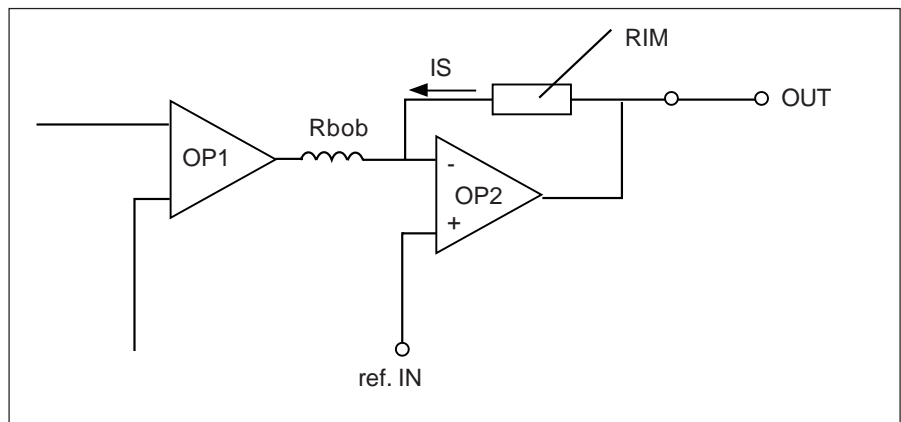

Fig. 9: Measuring range in Ref in mode. LTSR output schematic.
- The positive measuring range is defined as follows: OP1 & OP2 (figure 9) saturate above 4.5 V and below 0.5 V. The voltage at the Rim connections is equal to: 4.5 V (max possible output) - $V_{\text{Ref in}} = 4.5 \text{ V} - 2.7 \text{ V} = 1.8 \text{ V}$.